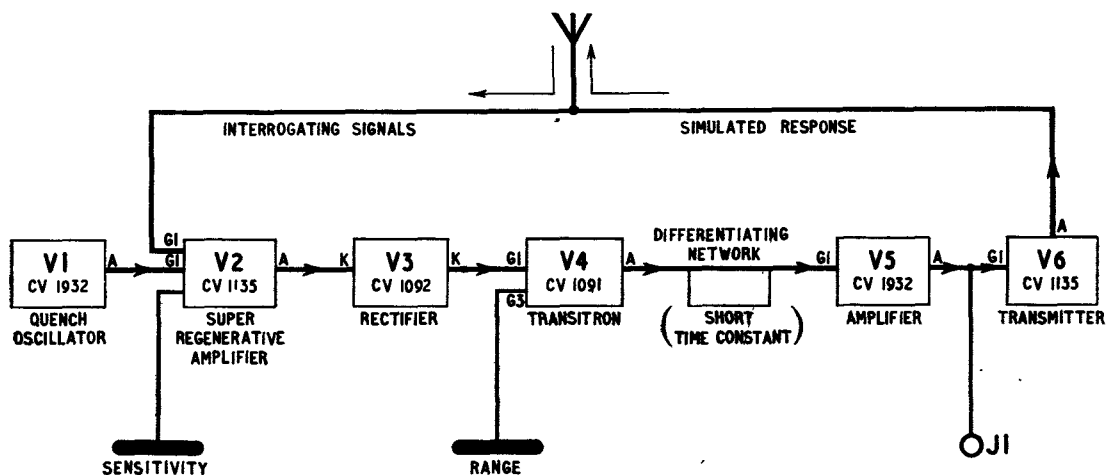

Fig. 13. Test set Type 172A : block diagram
40. In the block diagram of fig. 13, V1, V2 and V3 form a super-regenerative receiver, the output from V3 being a series of positive pulses at the p.r.f. of the transmitter under test. Each positive pulse triggers the transitron V4 which generates a square pulse of variable width at its anode. The square wave is differentiated and the negative peak of the differentiated waveform, coinciding with the delayed edge of the square wave, is used to trigger a transmitting valve V6 after inversion by V5. Thus a delayed pulse is transmitted to the IFF aerial. The amount of delay can be controlled by the RANGE potentiometer.